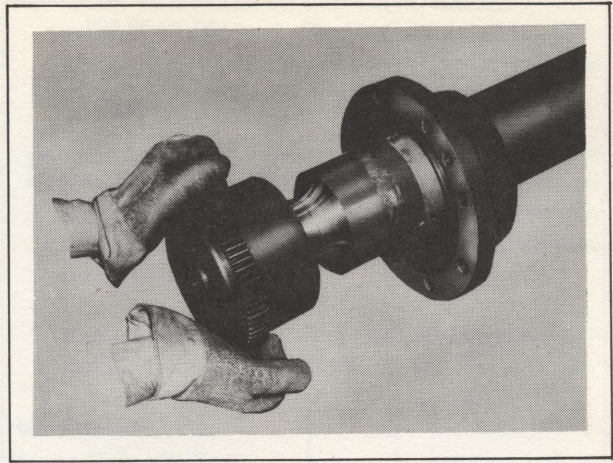

FIG. V-23. APPLYING HEATED COUPLING HUB TO COMPRESSOR DRIVESHAFT.
6. Quickly mount the hot hub on the shaft in the same angular position as when cold, using the chalk marks as a guide. When the hub is ready for engagement with the taper fit (not in actual contact), snap it forcibly into place with a quick push. It is important that the hub be instantly snapped into position before it has cooled appreciably; otherwise, it will "freeze" to the shaft and will not be further adjustable. Fig. V-23 shows the hub being mounted on the shaft.